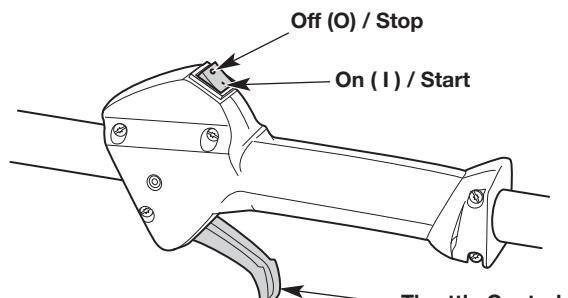

Fig. 6
- NOTE:** There is no need to turn the unit on. The On/Off switch is in the ON (I) position at all times (Fig. 6).
6. Squeeze the throttle control (Fig. 6) and pull the starter rope with a controlled and steady motion **5 times** (Fig. 8).
2. Press and hold the On/Off switch in the OFF (O) position until the engine comes to a complete stop (Fig. 6).